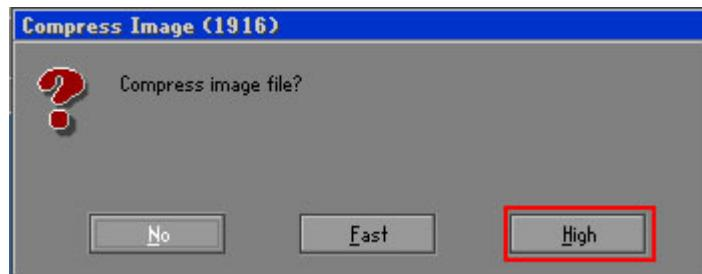

Figure B-17: Compress Image
**Step 8:** When the Compress Image screen in **Figure B-17** prompts, click **High** to make the image file smaller.